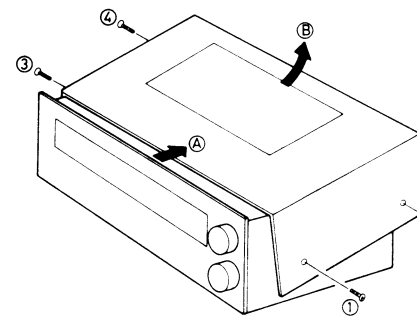

Fig. 4
2. Remove the four cabinet mounting screws (nos ① ~ ④ screws in fig. 4).
3. Sliding it toward A direction and lifting it upward B direction as shown in fig. 4.